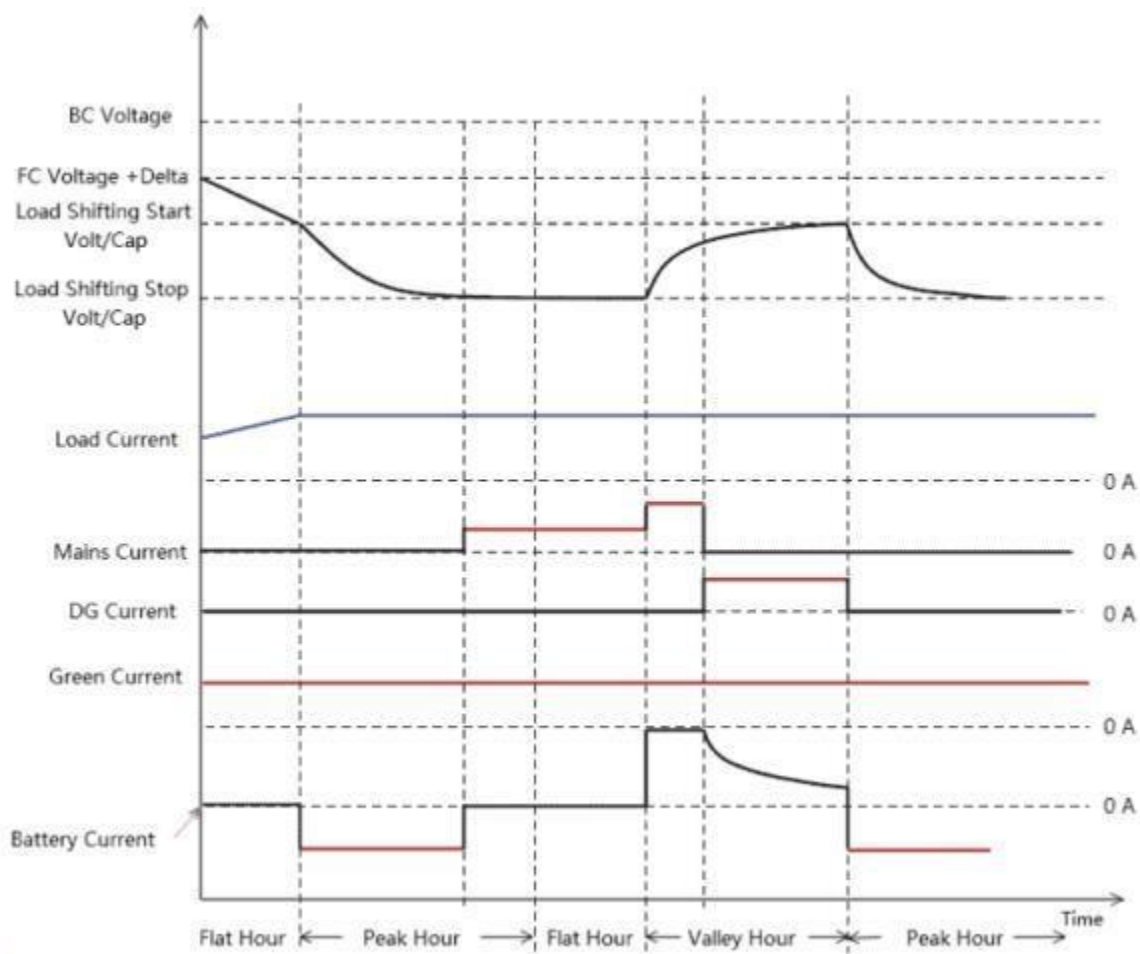

Fig 4-11 Green Energy -> Battery -> Mains -> DG Priority Diagram
**1)** Keep "Solar Delta Voltage", "Load Shifting Enable", and "DG Power Priority" at their default values, and set "Partial Charge Enable" to "Enable". Controller will adjust the output voltage of the rectifier module to the value of "Partial Chg End Voltage" - 1V, allowing the green energy and battery to supply power to the load. When the bus voltage drops to "Cycle Discharge End Voltage" or the SOC is less than "Partial Chg End SOC", Controller will switch the battery to "Float Charge" mode and adjust the output voltage of the rectifier module to the "Float Voltage" to charge the battery. This enables the priority of energy supply: Green energy -> Battery -> Mains -> DG, as shown in Fig 4-11.